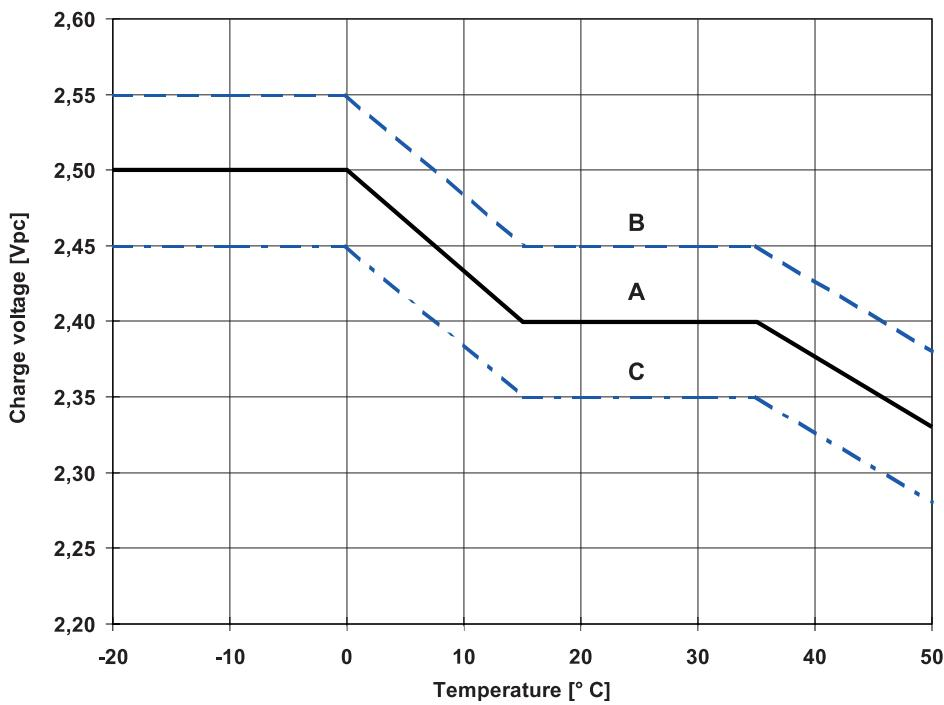

Fig. 1: Charge voltage vs. temperature for solar mode. Charge modes:
Recommended charge voltages for cyclical application: See fig. 1 and item 2.8.
I-phase = up to voltage acc. to fig. 1 at 20° C
When recharging acc. to fig.1 the actual value of the alternating current is occasionally permitted to reach 10 A (RMS)/ 100 Ah nominal capacity. In a fully charged state during float charge the actual value of the alternating current must not exceed 5 A (RMS)/ 100 Ah nominal capacity.
The temperature related adjustment has to be carried out acc. to fig. 1. An adjustment of the charge voltage must not be applied within a temperature range 15° C to 35° C.